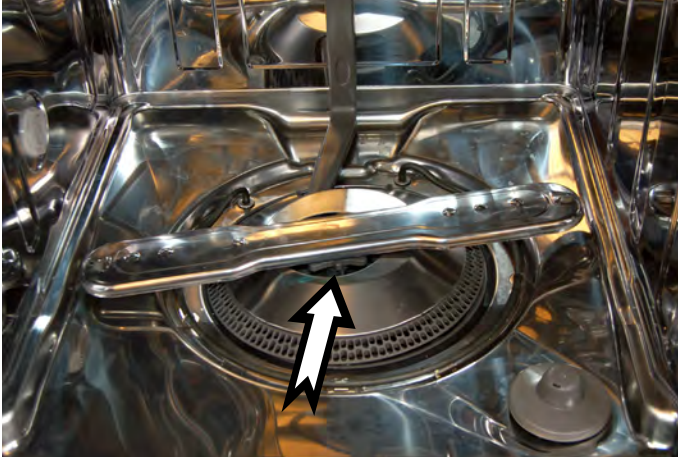

Figure 1
1. Lower spray arm nut location, (see Figure 1).